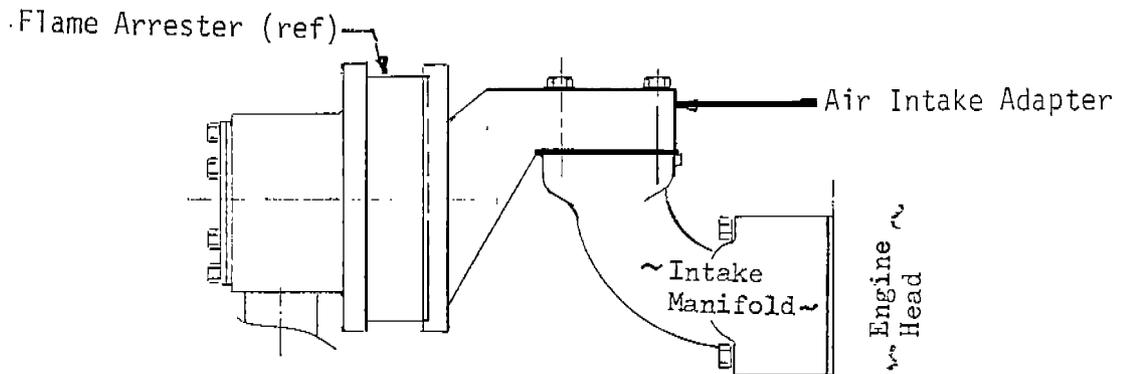

Figure 2. Gasket between Air Intake Adapter and Intake Manifold.
- (WEEKLY) 4. ( ) A copper gasket is installed between the Air Intake Adapter and the engine Intake Manifold as shown in Figure 2.